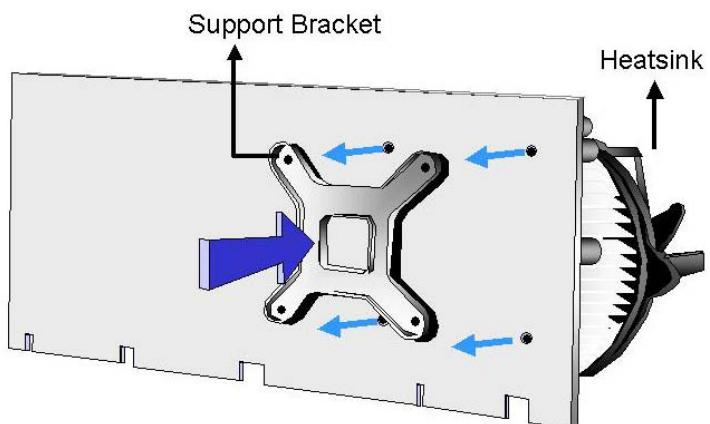

Figure 5-6: Securing the Heat sink to the PCB Board
Step 4: Secure the cooling kit. From the solder side of the PCB, align the support bracket to the screw threads on heat sink that were inserted through the PCB holes. (See Figure 5-6)